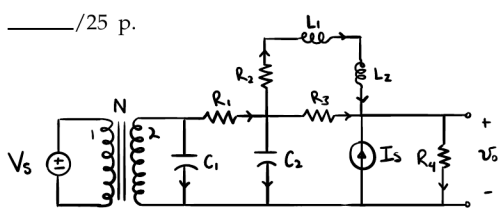

Figure exe.4: Exercise emech, part (d)
- The electronic system of Fig. exe.4, voltage and current sources, and transformer with transformer ratio N .